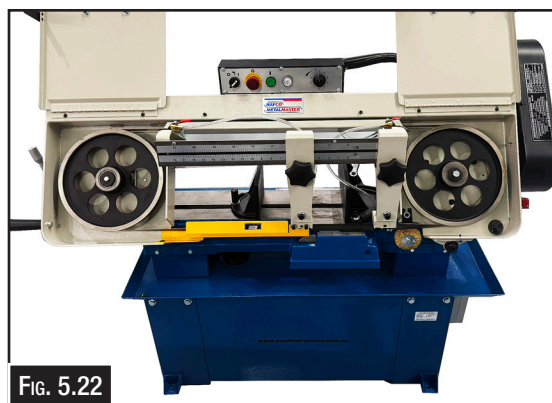

FIG. 5.22
3. Open the wheel guards on the sides of the saw head (guards at both ends are hinged.) (Fig. 5.22)